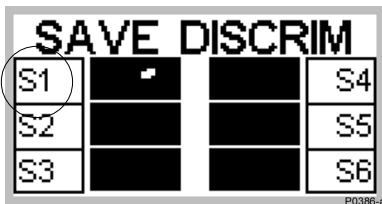

Figure 6.6 Saving the newly-edited discrimination pattern
- STEP 9** Press the shift button next to the Save icon to go directly to the SAVE DISCRIM menu. Press a button next to your choice of option S1–S6 (for example S1 in Figure 6.6). This will save the learnt discrimination pattern for future use.